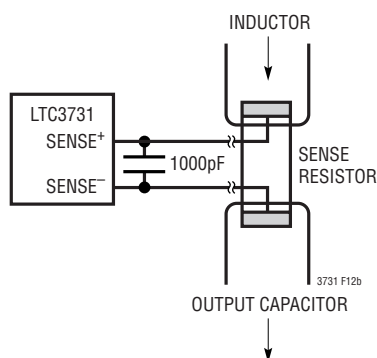

Figure 12. Kelvin Sensing  $R_{SENSE}$
3) Are the  $SENSE^-$  and  $SENSE^+$  printed circuit traces for each channel routed together with minimum PC trace spacing? The filter capacitors between  $SENSE^+$  and  $SENSE^-$  for each channel should be as close as possible to the pins of the IC. Connect the  $SENSE^-$  and  $SENSE^+$  pins to the pads of the sense resistor as illustrated in Figure 12.